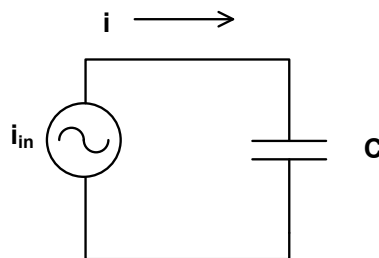

Figure 2.2
2.1.2 AC Current: Let's now change our circuit slightly. In Figure 2.2 we show a current source placed across a capacitor. Assume we let current flow in the positive direction (as shown in the figure). The voltage begins to build up on the plates of the capacitor, fighting the flow of current. Now suppose we change the direction of flow of the current to negative (opposite to that shown in the figure.) The voltage on the plates now *attracts* the current flow. At the first instant of time current will flow very freely in the opposite direction. In the next few instants of time, however, voltage will build up on the plate in the opposite polarity, again fighting against the flow of current.